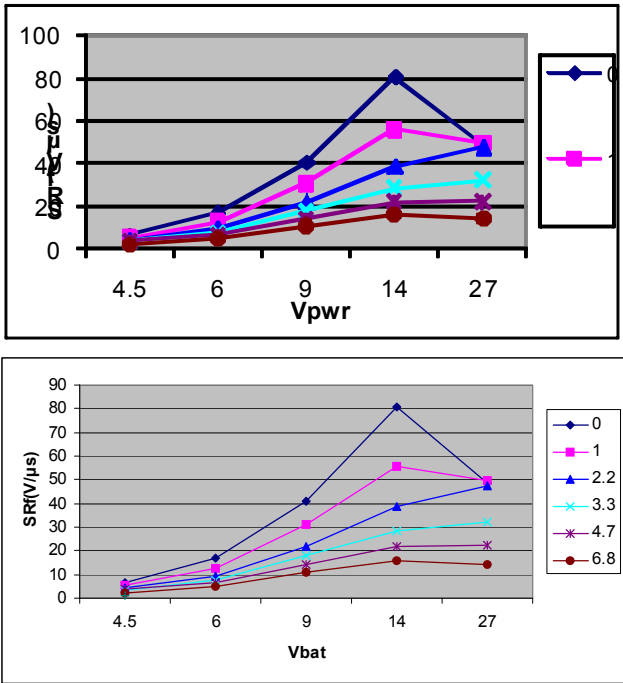
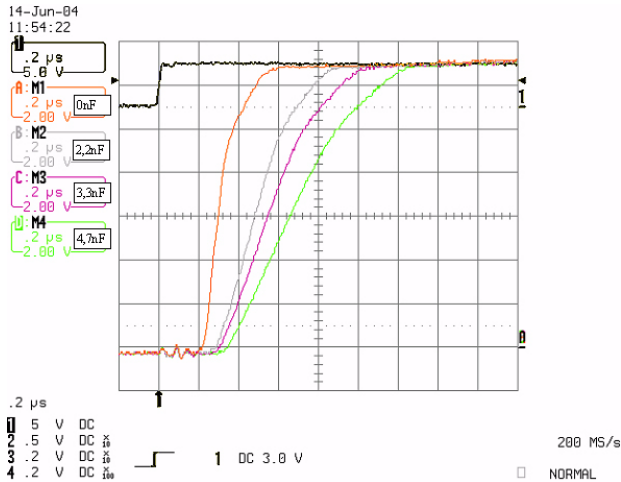

Figure 36. Positive and Negative Slew Rate vs. SR Capacitor
Figure 37. OUT switching vs. SR Capacitor
The switching time is a critical parameter. The 34981 provides adjustable slew rates through an external capacitor (SR), which slow down the rise and fall times to reduce the electromagnetic emissions. However, this adjustment has an impact on power dissipation. Figure 36 gives the positive (SR_R) and negative (SR_F) slew rate versus different values of SR. This is illustrated in Figure 37.